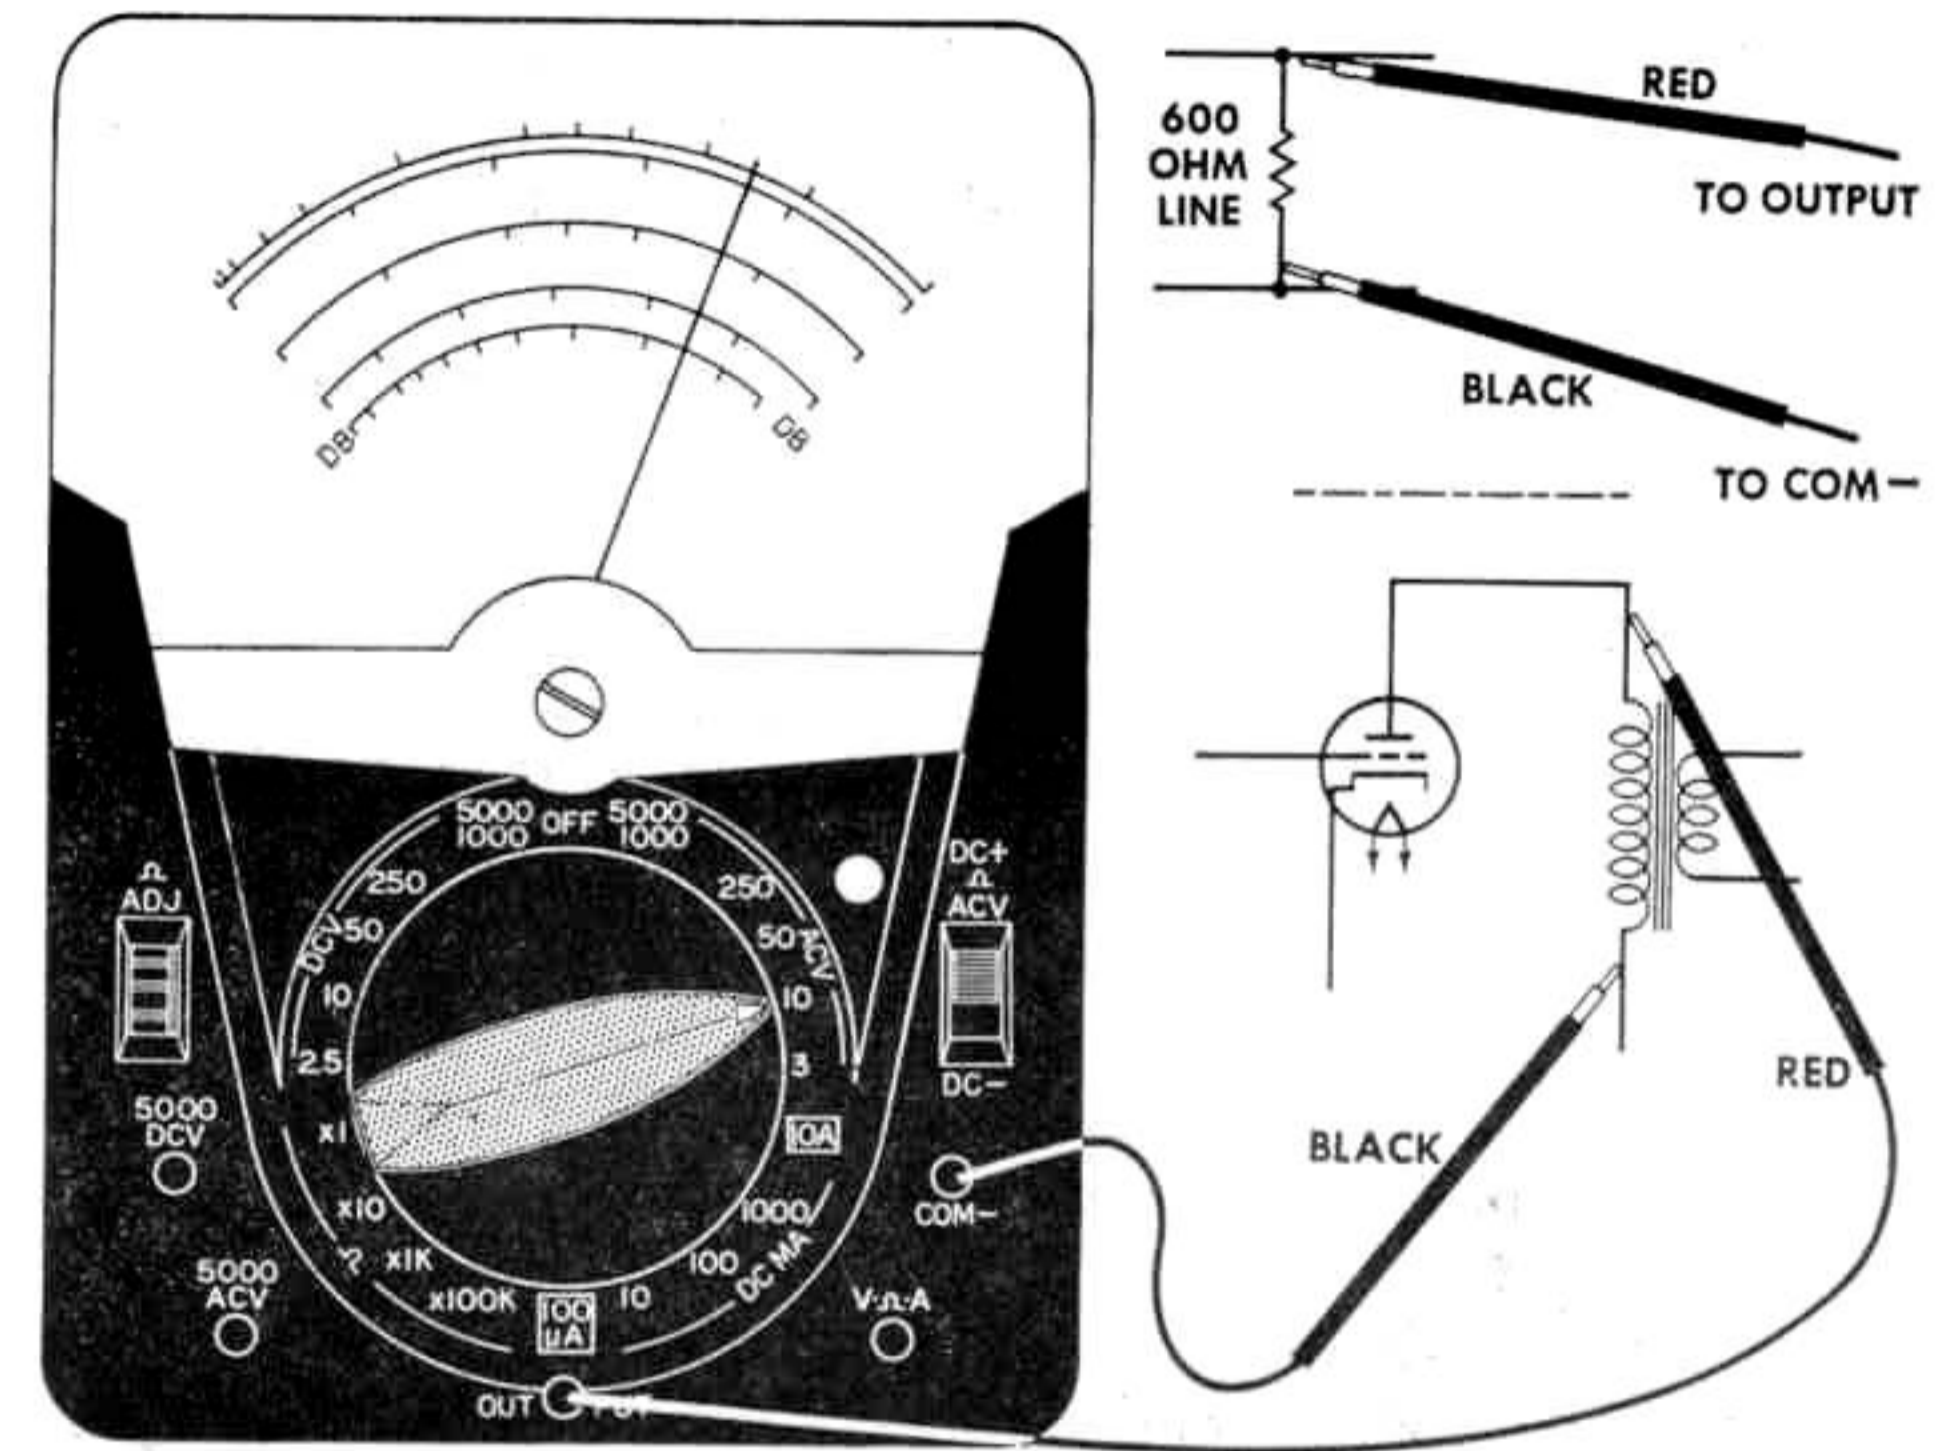

Fig. 5. Measuring Output.
3. Connect test probes across voltage to be measured as shown in Fig. 5.